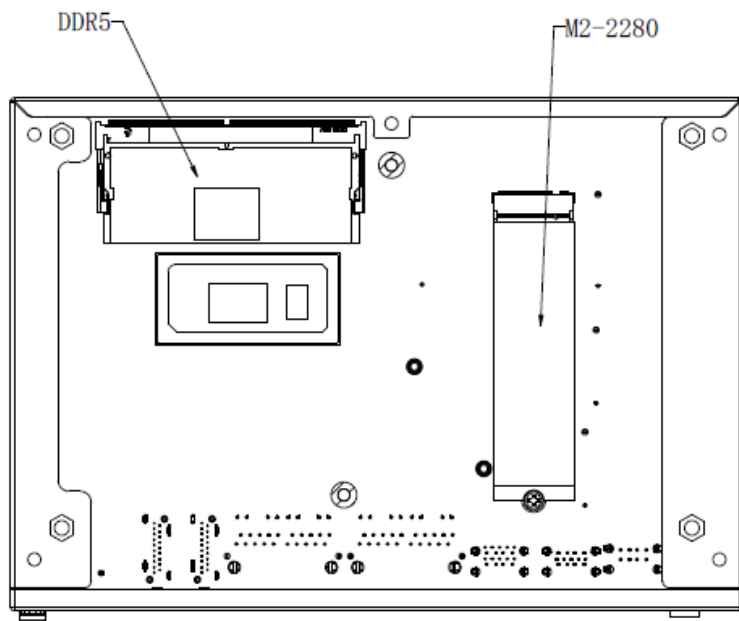

Figure 3.2-1 Install and Remove key parts
1. Remove the memory module and M.2 2242 module then remove 1 pan-head M3x3 screw, as shown in Figure 3.2-1.